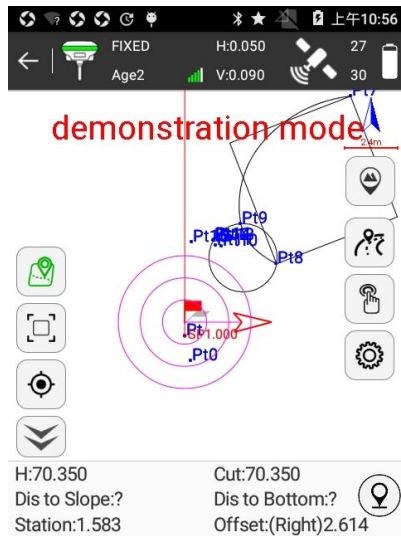

Figure 5.6-4
2. Select the stakeout road and press [OK] to enter road stakeout interface. And stakeout according to the prompt in the bottom status bar as shown in Figure 5.6-4. Draw vertical line of stakeout line over current point. Red flag indicates foot point, circle indicates current point, and arrow indicates direction of RTK.